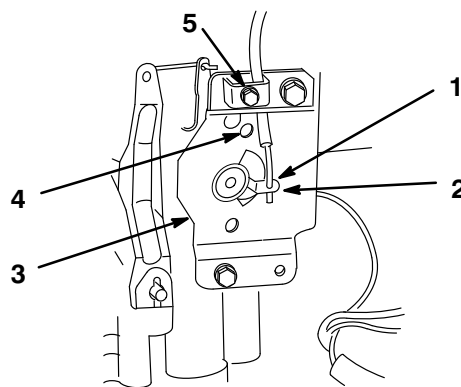

**Figure 6**
3. Check the gap between upper control bar and fixed bar with wheel drive fully engaged. Gap should be approximately 1 to 1-1/4 in. (25–32 mm) (Fig. 6).